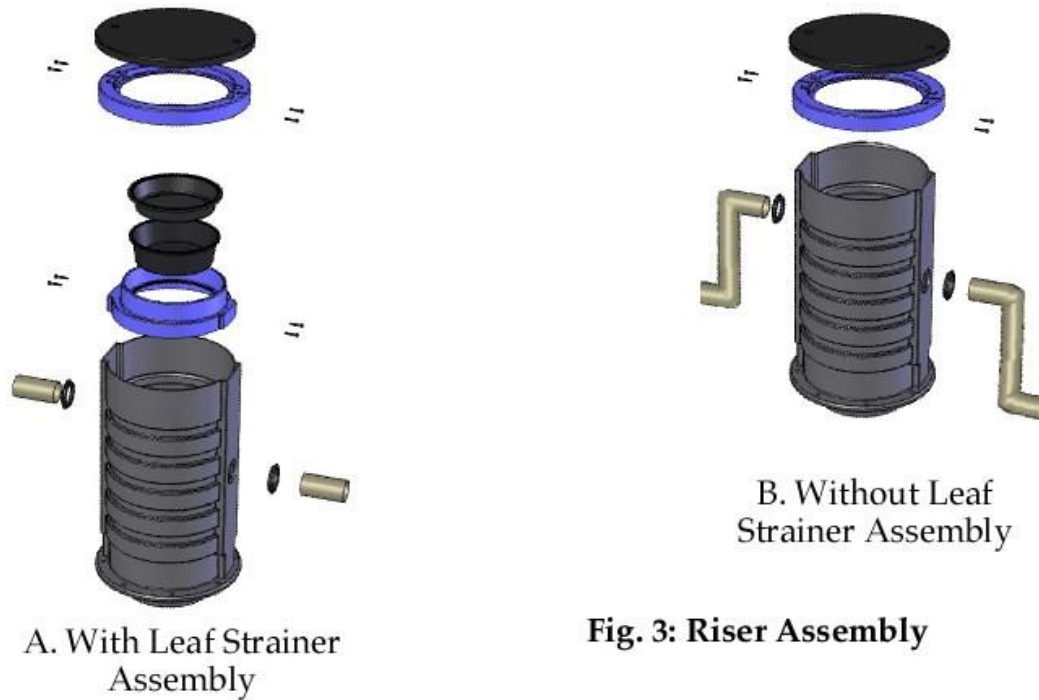

Fig. 3: Riser Assembly
An exploded view of the riser assembly is found in Figure 3 below.
- Connect Storm water as per Figure 3 Riser assembly.